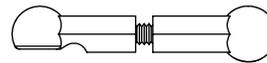

Figure 60A
□ Step 15. Thread a short plastic rod end (148) onto each end of the 4-40 x 5/8" threaded rod (149).
□ Step 16. Refer to Table 57B to determine the appropriate rod length for the servo that is installed. Tighten both sides equally until the rod is the same length as the one shown in Figure 60A or 60B.